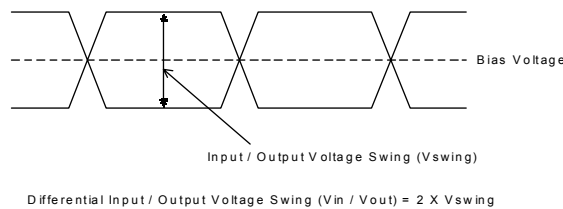

Figure 7. Definition of Differential Input / Output Voltage Swing
1. Refer to Figure7
1. $V_{\text{ccR}} = +3.3\text{V} \pm 10\%$, Output load Resistance $R_{\text{diff}} = 100\Omega$, Refer to Figure7.